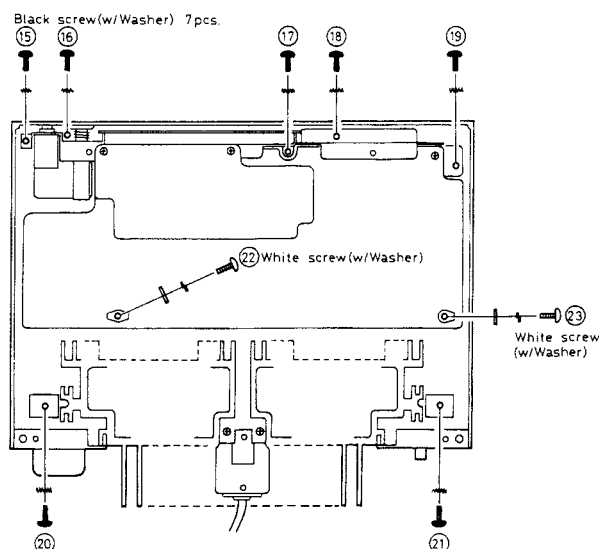

Fig. 4
5. Remove 9 setscrews (⑮ ~ ⑳), in Fig. 4) which secure printed circuit board, chassis and heat sink.
7. When installing, refer to Fig. 4 and pay attention to installing positions.